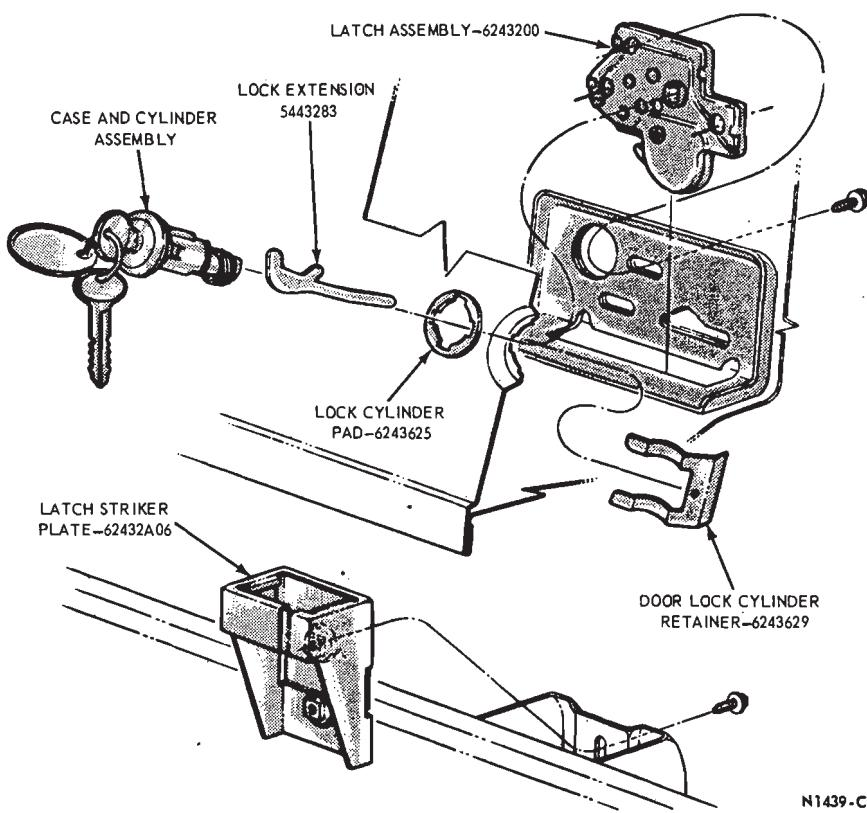

FIG. 13—Luggage Compartment Latch Mechanism—Ford, Mercury and Meteor
1. Open the luggage compartment door and remove the lock cylinder retainer located behind the latch (Fig. 13).
5. Position the lock cylinder, pad and extension to the door and latch (Fig. 13) and install the retainer.